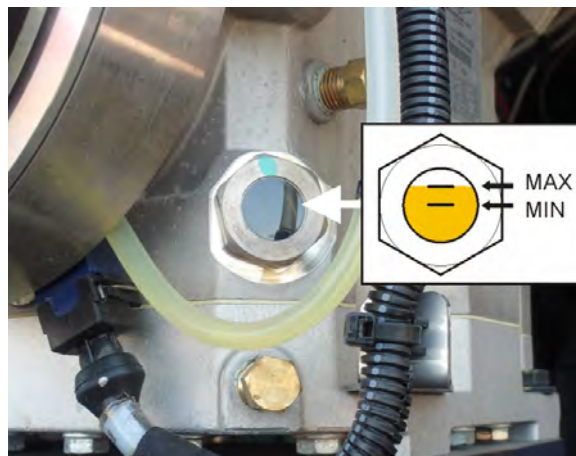

FIGURE 18: R.H. SIGHT GLASS
- R.H. sight glass: between $\frac{1}{2}$ and $\frac{3}{4}$ of sight glass height (Figure 18).